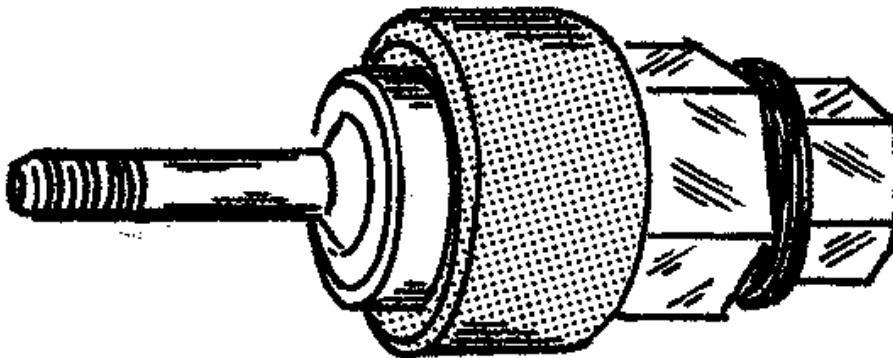

Figure 3 - Blind Nut Hand Tool
- 4.2.2 Blind nut hand tools and accessories (e.g., as listed in Table 5). Refer to Figure 3 for a general description of the blind nut hand tools. It is acceptable to use alternative installation equipment provided that the final installation meets all the requirements specified in section 6.